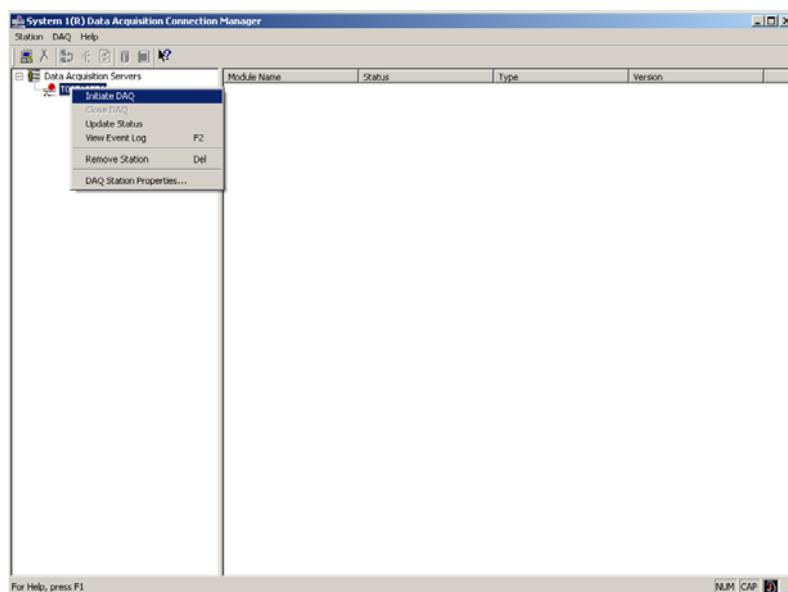

Figure 4-5: Starting System 1® DAQ
4. Select Initiate DAQ, see Figure 4-5.